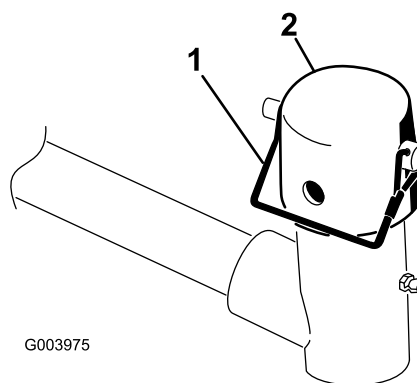

Figure 6
6. Remove the snapper pin and the cap from the lift arm pivot yoke (Figure 6).
10. Secure the cap and the carrier-frame shaft to the lift-arm yoke with the snapper pin (Figure 6).